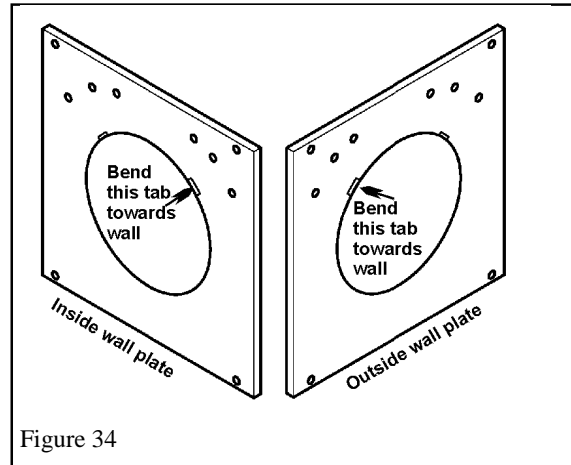

Figure 34
2. Bend the inner wall plate tab as shown in figure 34 so that the seam on the terminal tube will pass clearly through the plate with the wall shield at the top. Place the inner wall plate over the terminal unit.
7. Bend the outer wall plate tab as shown in figure 34.